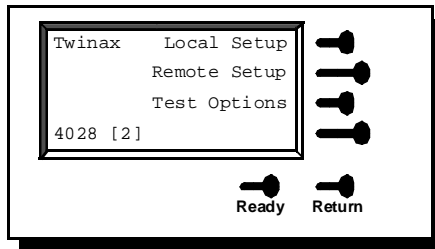

Figure 2.
5. The [2] displayed next to the emulation in figure 2 indicates the Twinax Station Address. This indication is only shown in Twinax mode. For more information on setting the Twinax address refer to page 37.